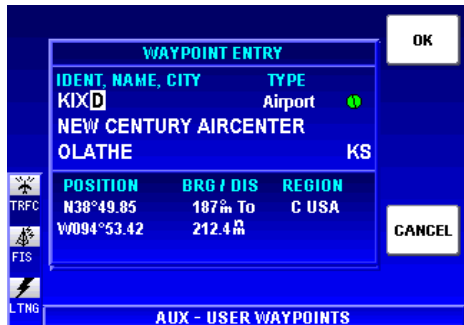

Figure 1-77
14. Use a combination of the Joystick and Rotary Knob as previously discussed to enter the desired identifier of the airport or navaid as shown in Figure 1-77. Note the bearing and distance.